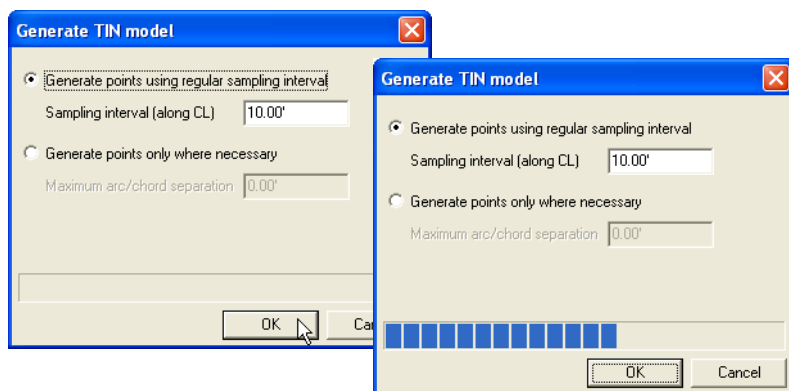

Figure 5-7. Select TIN Generation Parameters and Generate TIN Model
2. On the **Generate TIN surface** dialog box, select the desired generation parameter, and click **OK** (Figure 5-7).